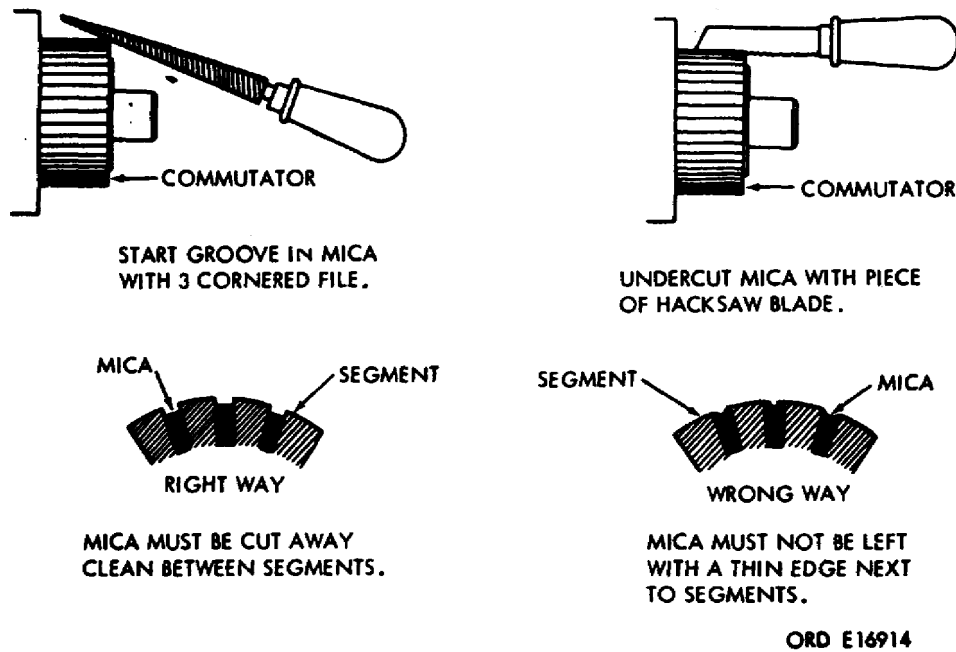

Figure 25. Hand method of undercutting mica.
2. Figure 25 shows how the mica may be undercut by hand. First start a groove in the mica with a three-cornered file; then undercut with a piece of hacksaw blade. Also shown are illustrations of good and bad mica undercutting.